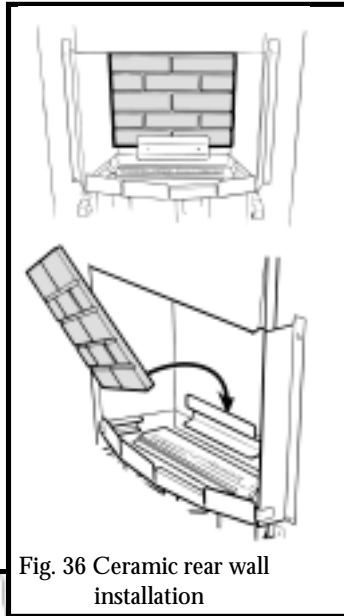

Fig. 36 Ceramic rear wall installation
12.1 With its feather edge at the top, place the ceramic rear wall into the channel at the back of the fire box. Push the wall flat against the rear of the fire box. (See figure 36).